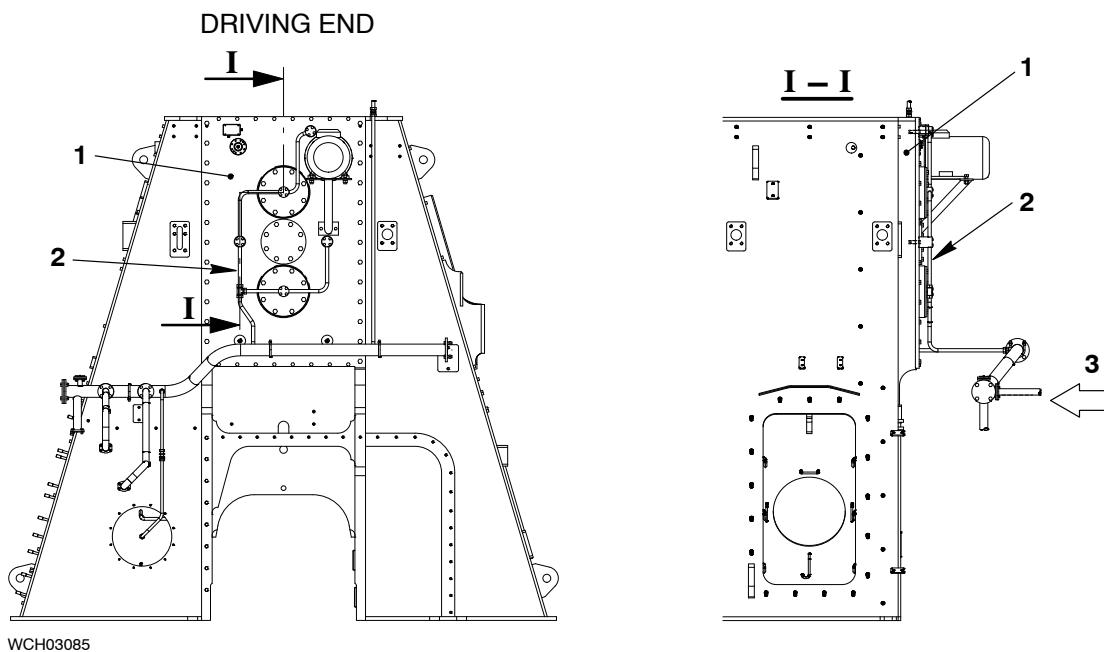

Fig. 4: ELBA Lubrication System
The lubrication system of the ELBA is connected to the low-pressure oil system of the engine. In the housing (1, Fig. 4) lubricating oil (3) flows through the pipes (2) to the shafts to lubricate the gear wheels. Oil that is not used flows through the oil return to the crankcase.